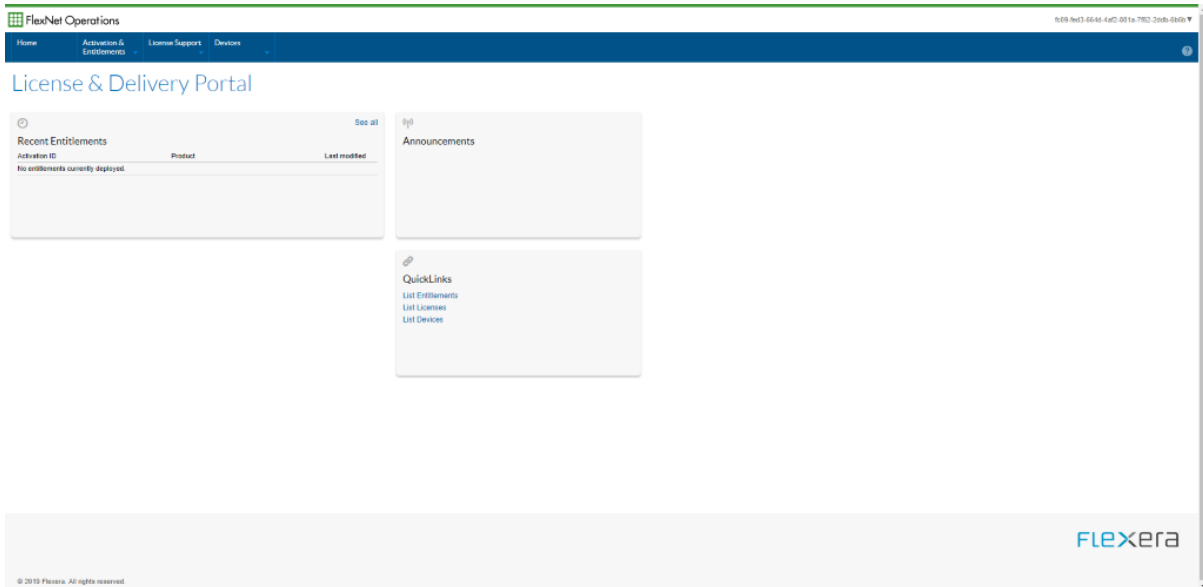

Figure 7 - License and Delivery Portal.
14. If the log in process is successful, this will open the License and Delivery Portal (Figure 7).